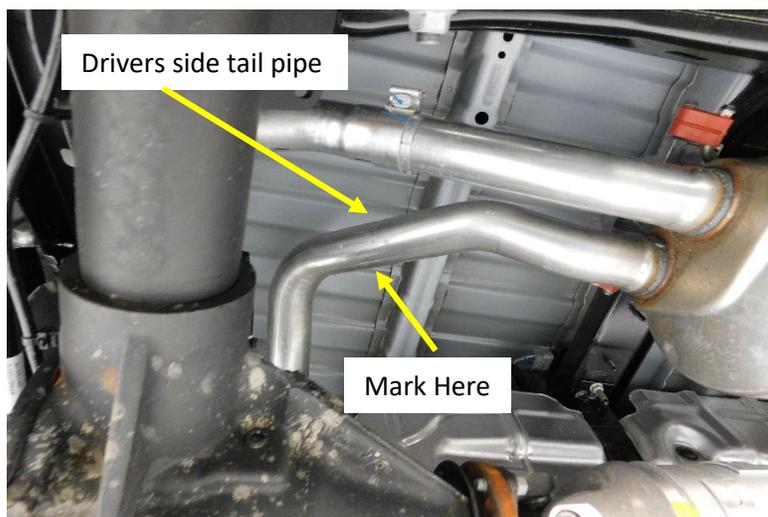

Figure. 1
3. Cut the left (Drivers Side) tail pipe at the location in **Fig. 1/ Fig. 2**